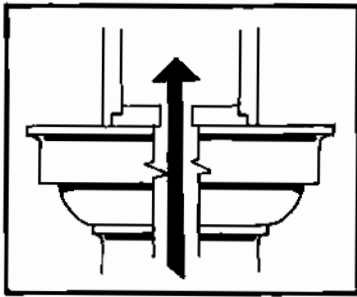
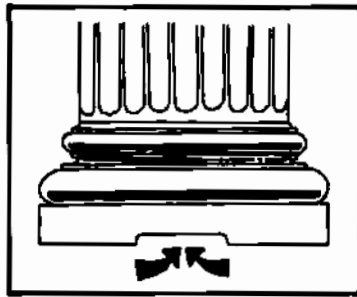

FIGURE 3-8
FIGURE 3-9
Columns must always have adequate ventilation. This can be supplied in two (2) ways: a ventilated plinth (Fig. 3-8) and soffit (Fig. 3-9), or a ventilated plinth and recessed soffit (Fig. 3-10).